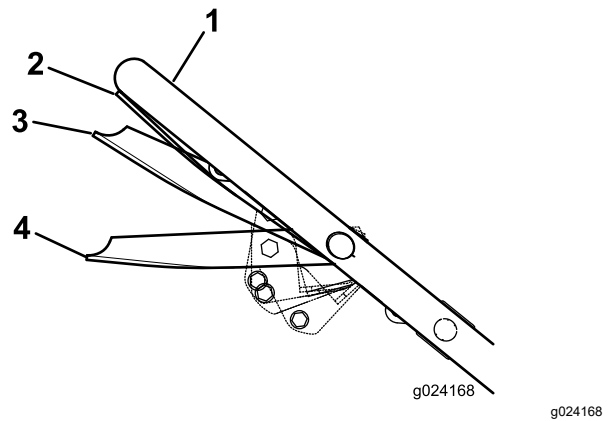

Figure 17
- Squeeze the blade-control bar against the handle to the Run/Drive position (Figure 17).
Important: Shifting speeds while squeezing the blade-control bar against the handle in the Run/Drive position could damage the transmission. Move the blade-control bar to the Run/Shift position (Figure 17) whenever you change the ground speed.